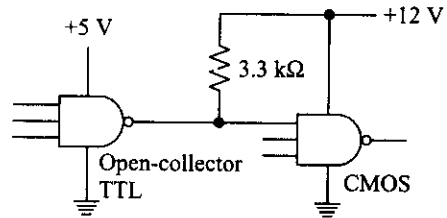

Fig. 14.58
14.43 Ideally, how much current does the open-collector driver of Fig. 14.58 have to sink when its output is low?